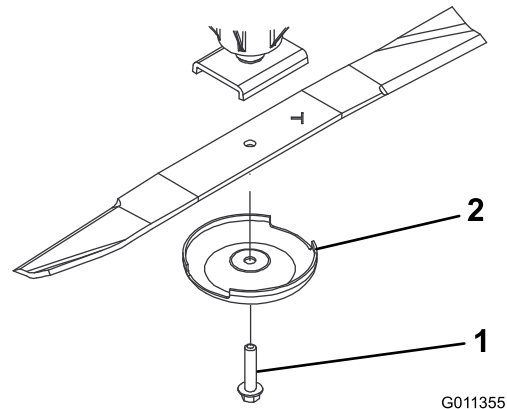

Figure 93
3. Remove the blade bolt, anti-scalp cup, and blade from the spindle shaft (Figure 93).